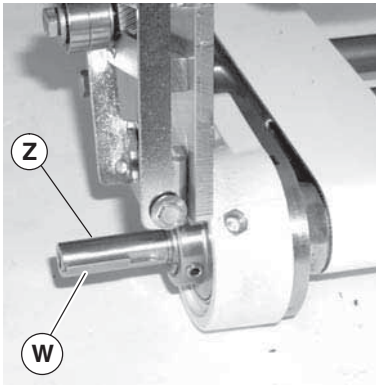

Figure 7
1. Install key (Figure 7, item W) into conveyor input shaft (Z).